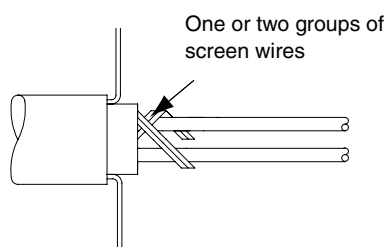

Fig. 2
- 2.3. Unravel one or two groups of wires from the screen wires, then remove the remainder of the screen wires (See Fig. 2).